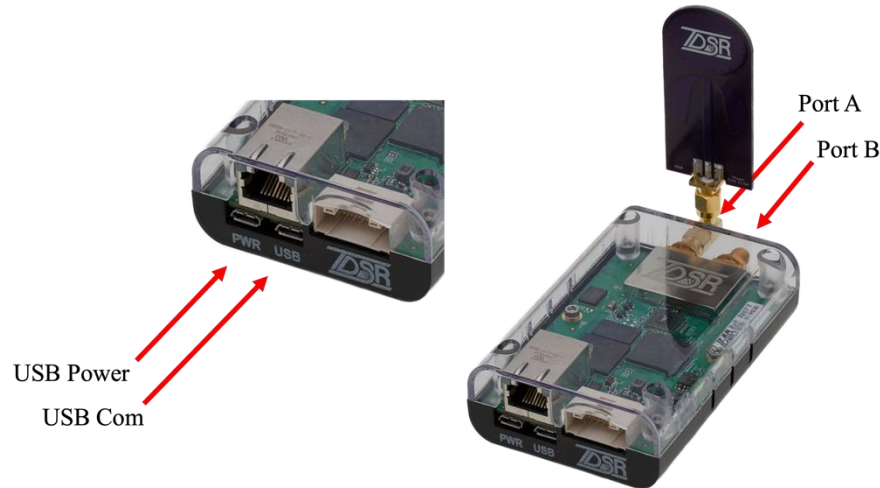

Fig. 17: P452 with antenna connected and USB Power and COM ports identified
2. Attach the Broadspec antennas to SMA port “A.” (The port A connector in line with the Ethernet connector; see **Figure 17**). The Broadspec antenna is omni-directional.